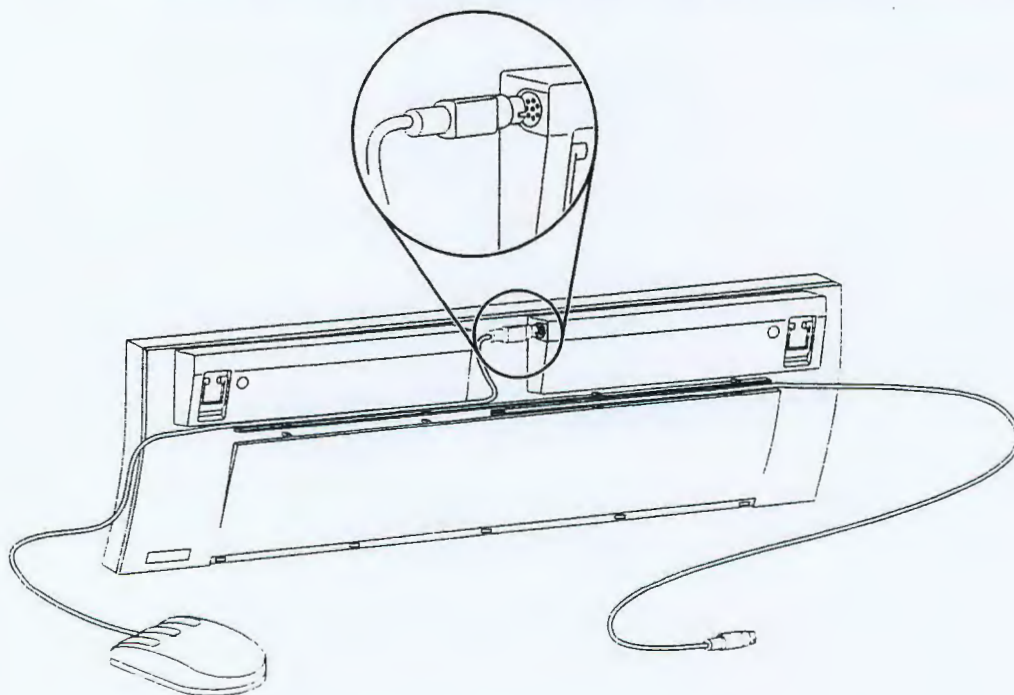

Figure 2 Connecting the Mouse to the Keyboard
4. **Route the mouse cable through the mouse cable channel so that the cable exits to right of the keyboard as shown in Figure 2.**
1. The keyboard is shipped with the cable routed to the left as shown in Figure 2. However, you can reroute the cable through the channel so the cable exits to the right or at the center of the keyboard.